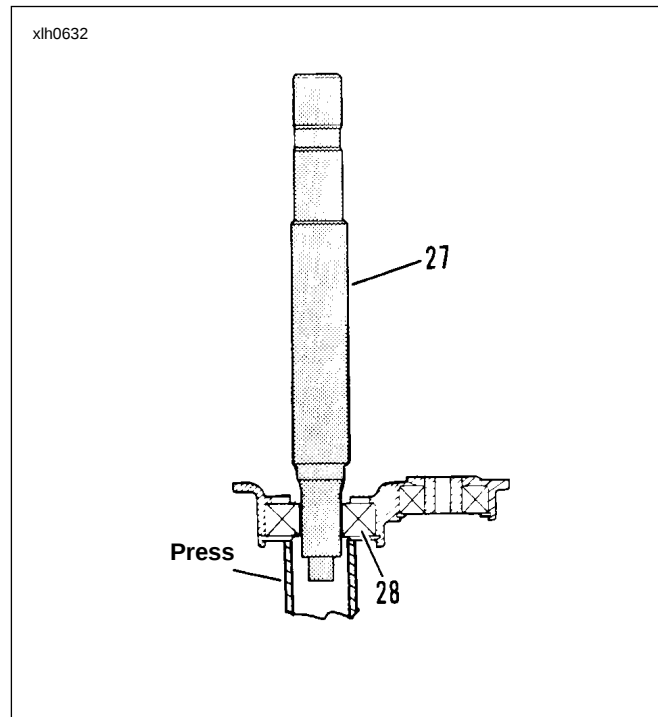

Figure 6-42.
1. Find a section of pipe that matches the inner race of mainshaft bearing (28). See Figure 6-42. Place the door assembly, outside downward, on a press with the inner race of bearing (28) resting on the section of pipe. Insert the splined end of the shaft through the bearing and hold in a vertical position. Press the shaft into the bearing until the bearing bottoms against the shaft shoulder.